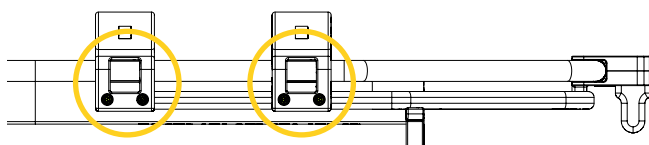

Figure 29: Tightening the cot support structure (4 of 8 screws illustrated)
14. Tighten the eight (8) screws located on the side of the clamp blocks (Figure 29) using a 3/16 in. hex key.